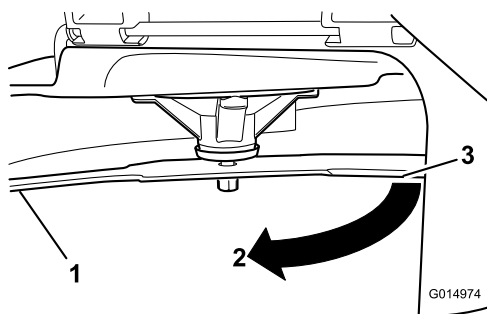

Figure 47
3. Measured distance between blade and the surface (A)
4. Rotate the same blade 180 degrees so that the opposing cutting edge is now in the same position (Figure 47).